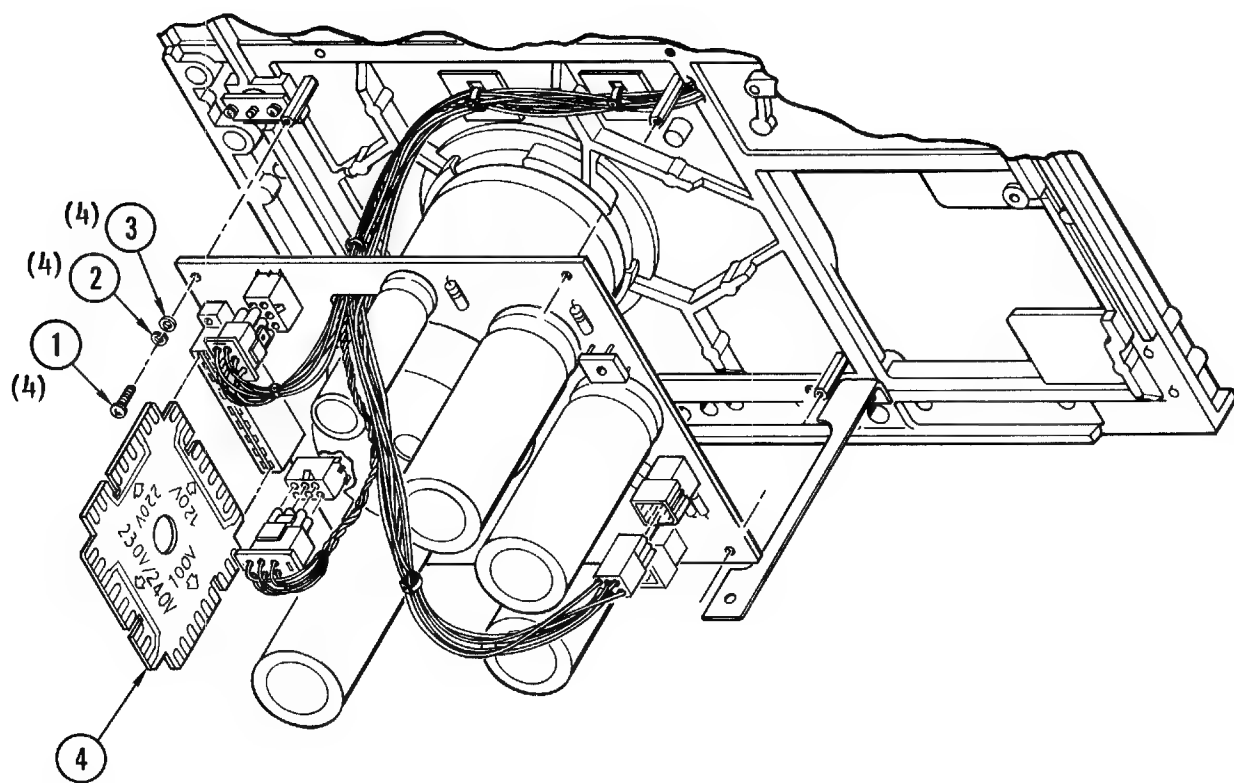

Figure 4-25. Power Supply PWB
**4-39. Removal and Replacement (Figure 4-25).** Place the drive in service access position in accordance with instructions in paragraph 4-3 and proceed as follows:
- e. Remove screws (1), lockwashers (2), and flatwashers (3), and carefully lower power supply PWB while feeding cables through board opening. Remove voltage selection card (4).
- f. Reconnect all connectors to replacement PWB and replace voltage selection card (4).
- g. Hold PWB in place and secure with screws (1), lockwashers (2), and flatwasher (3).